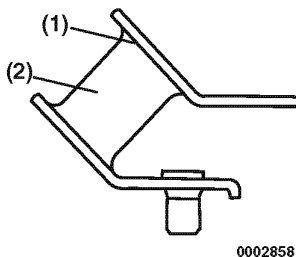

Figure 5-13
1. Check for separation at rubber baked portion (**Figure 5-13, (1)**).
2. Check the damper rubber material (**Figure 5-13, (2)**) for cracks and deformation. Replace the damper if cracked or deformed.